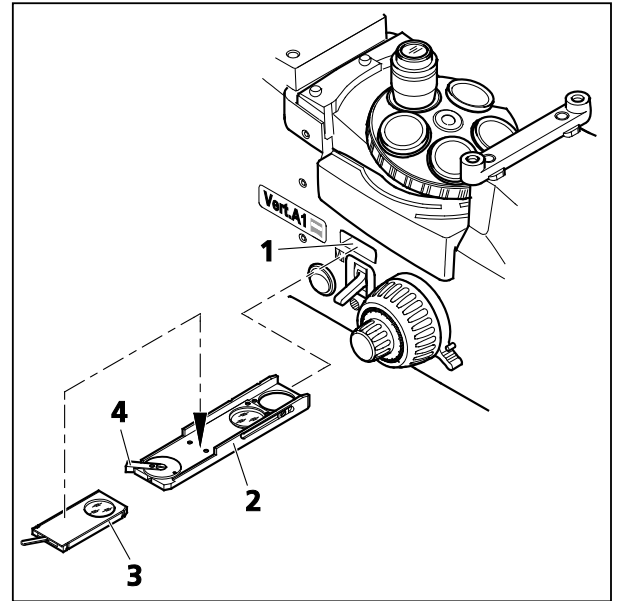

Fig. 4-16 Setting the Polarization
For the purpose of color-contrasting anisotropic materials, compensator Lambda or compensator Lambda Pol sub. $\pm 10^\circ$ (Fig. 4-16/3) may be used. To do so, place the compensator on the analyzer.
- Insert the analyzer slider (Fig. 4-16/2) into the slot (Fig. 4-16/1) under the reflector turret. The analyzer can be rotated 90 degrees.
- Use the analyzer turning lever to cross the vibration direction of the analyzer and polarizer (Fig. 4-16/4) (dark position).
For the purpose of color-contrasting anisotropic materials, compensator Lambda Pol sub. $\pm 10^\circ$ (Fig. 4-16/3) may be used in addition to compensator Lambda. To do so, place the compensator on the analyzer.